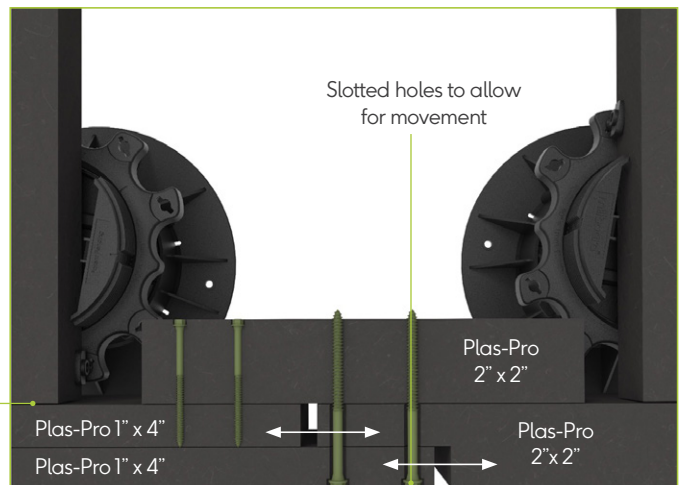

Fig. 34 - Plas-Pro fascia support to rim joist connection
- d. Connecting the Plas-Pro fascia support ends to the 2"x2" rim joist should be done with an expansion half lap joint (fig. 34)